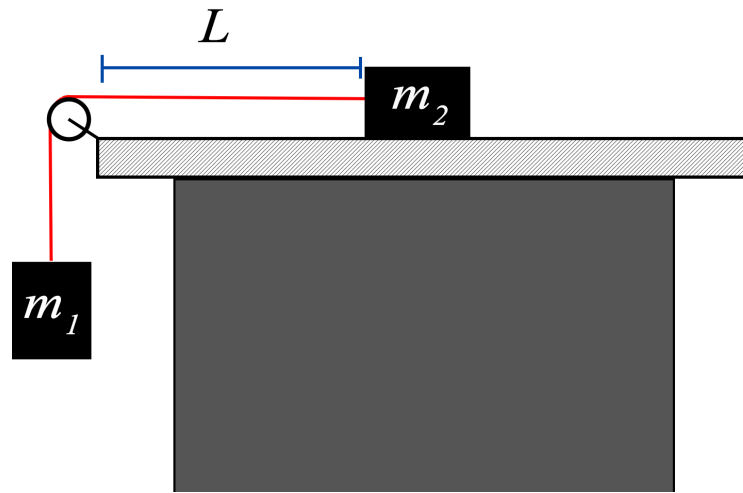

Figure 1: Experimental set-up; m_2 is the iOLab cart.
In this lab we will reexamine the familiar dynamical system of the semi-Atwood machine shown in Figure 1 from the perspective of *mechanical energy conservation*. When released from rest, the system accelerates, gaining kinetic energy. The principle of mechanical energy conservation asserts that in the absence of non-conservative forces like friction acting on the system the sum of its kinetic energy and potential energy is constant. This implies that, for the two-mass system under investigation, the amount of kinetic energy gained should equal the amount of gravitational potential energy lost. We will use the principle of mechanical energy conservation to determine the unknown mass m_2 .
2. Write the equation of energy conservation for the system shown in Figure 1, equating the system's energy at the moment of release and the moment when each mass has moved by a distance L . Use only the symbols m_1 , m_2 , L , v , and g , where g is the acceleration due to gravity.